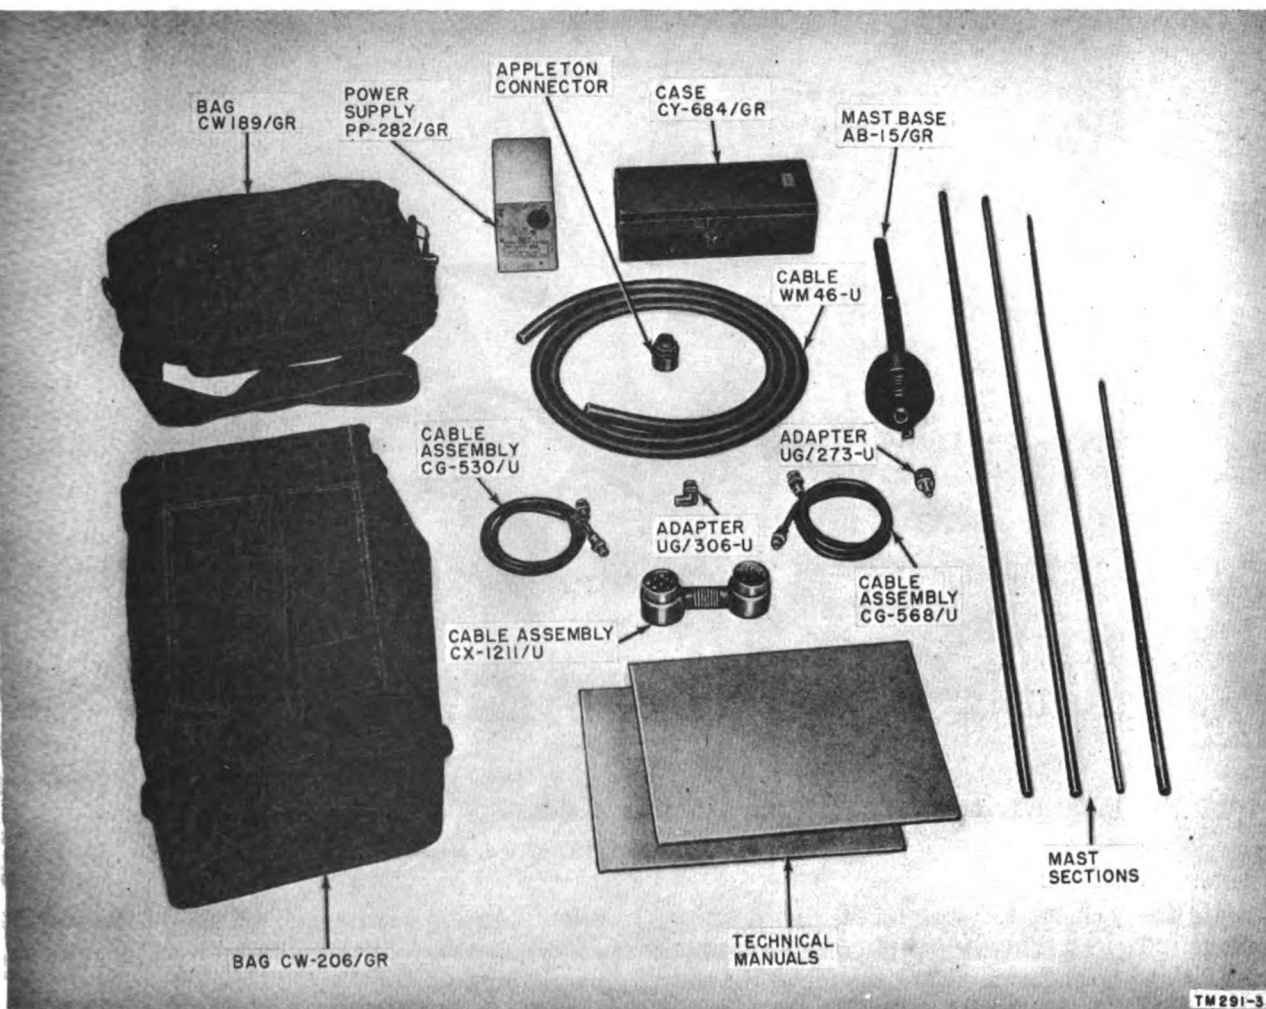

Figure 10. Minor components of Radio Set AN/VRC-13.
Power Supply PP-282/GRC (shown with the minor components in fig. 10) is used in the interphone amplifier in 24-volt installations of the radio set. The unit supplies plate and screen operating voltage for the interphone amplifier. Power Supply PP-281/GRC, similar in appearance and general characteristics, is used for 12-volt installations. The units are vibrator type power supplies which plug into the compartment on the amplifier chassis (fig. 47).
a. The following minor components are illustrated in figure 10.
- (1) Mast Base AB-15/GR.
- (2) Mast Sections MS-116-A, MS-117-A, and MS-118-A.
- (3) Mast Section AB-24/GR.
- (4) Adapters UG-273/U and UG-306/U.
- (5) RF Cable Assembly CG-568/U.
- (6) RF Cable Assembly CG-530/U.
- (7) Special Purpose Cable Assembly CX-1211/U.
- (8) Special Purpose Cable WM-46/U.
- (9) Connector and bondnut, Appleton Electrical Company No. 61007 and BL-50, or equal.
(10) Case CY-684/GR.